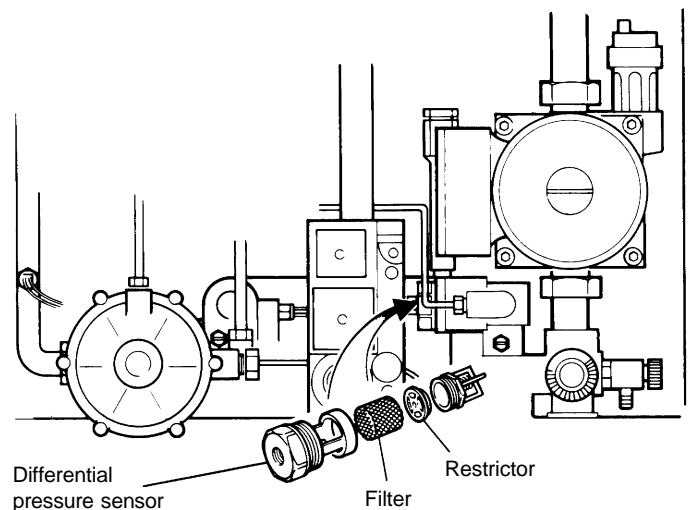

Fig. 36
8.35 DIFFERENTIAL PRESSURE SENSOR - Refer to Fig. 36